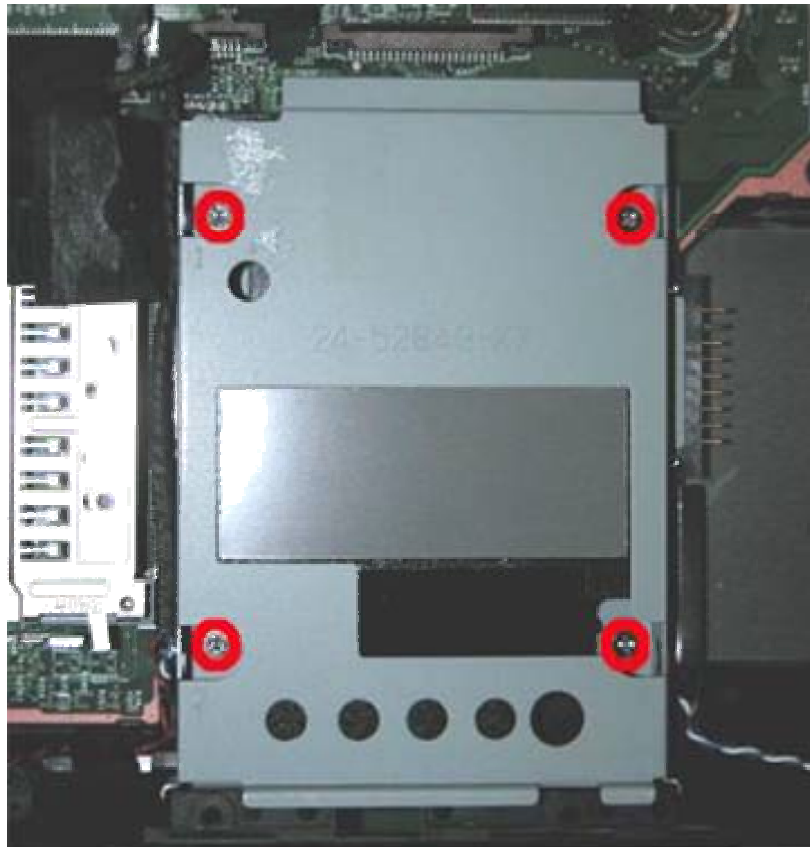

Fig. 31 HDD Holder
2. Unscrew those screws on HDD holder as shown in Fig. 31 and separate it carefully from Main Board.